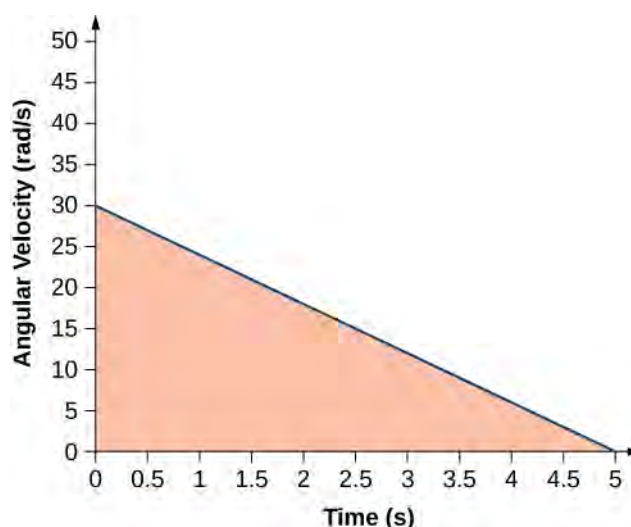

Figure 10.13 The area under the curve is the area of the right triangle.
- We can find the area under the curve by calculating the area of the right triangle, as shown in **Figure 10.13**.